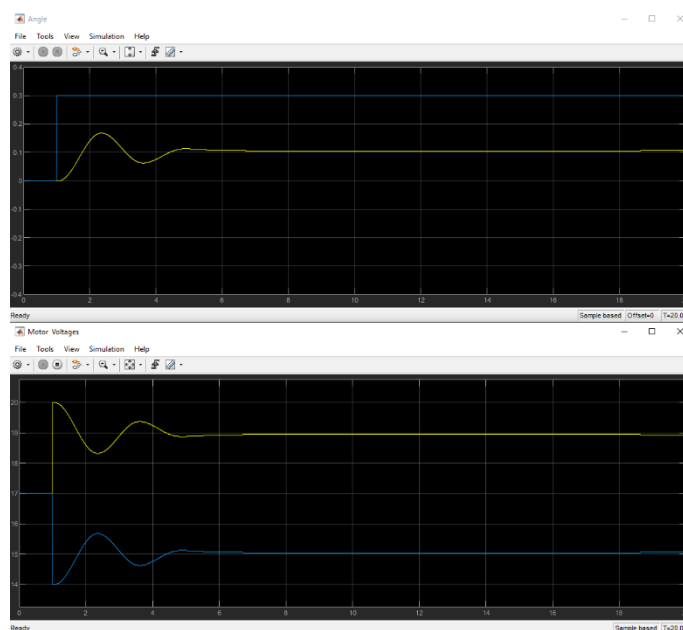

Figure 2.2: Quanser Aero Proportional gain feedback step response.
2. Build and run the **QUARC**[®] controller. The response should look similarly as shown in Figure 2.2.